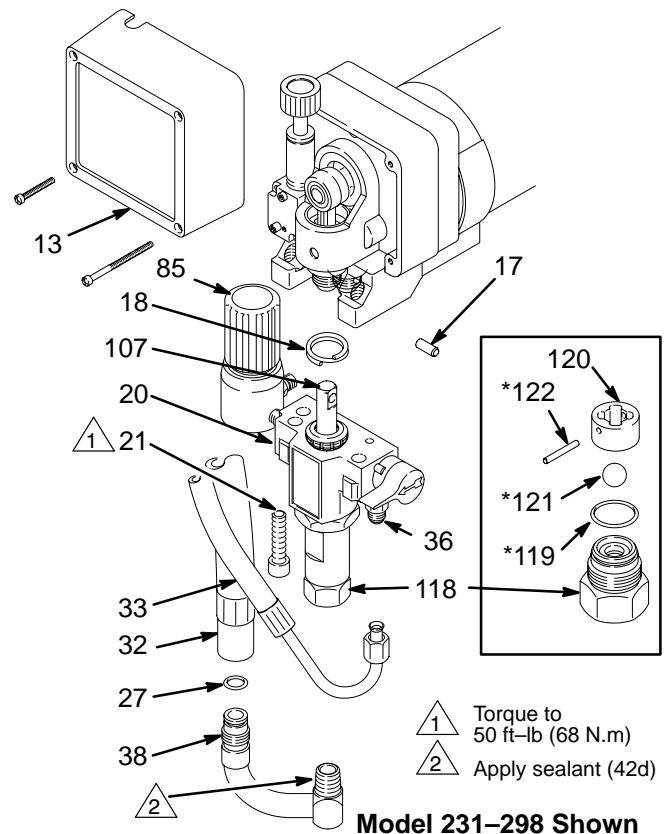

Fig. 16
6. Place a new brush (C) in the holder (B) so the ramp (H) faces the spring. See Fig. 16.
Removing the pump (See Fig. 16.)
Installing the pump (See Fig. 16 and 17.)